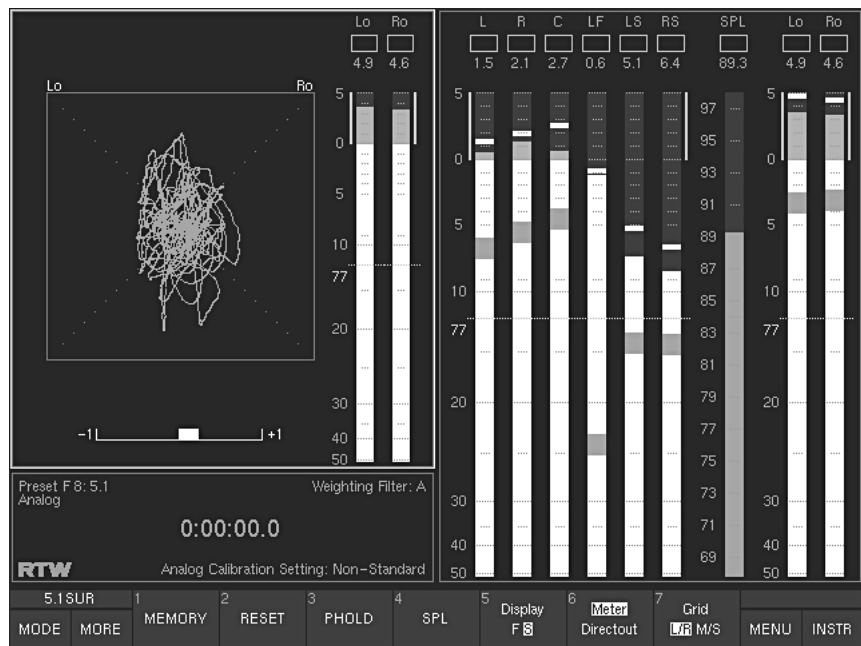

Fig. 5-24: The screen display with DOWNMIX instrument selected
(Button/key 1, see Fig. 5-24)
(Button/key 2, see Fig. 5-24)
(Button/key 3, see Fig. 5-24)
(Button/key 4, see Fig. 5-24)
(Button/key 5, see Fig. 5-24)
(Button/key 6, see Fig. 5-24)
(Button/key 7, see Fig. 5-24)